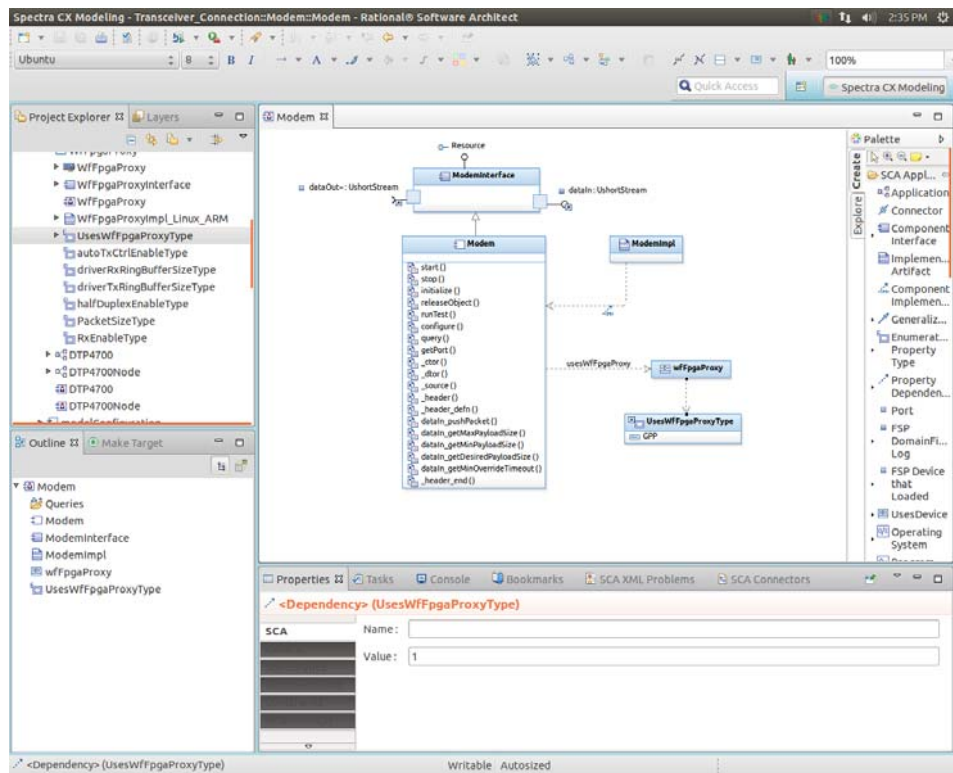

Figure 21 Uses Device Dependency
Step 11: Ensure that the diagram for the Modem component is visible. Expand the DTP4700 project in the Project Explorer view and navigate to the WffpgaProxy component definition. Left-click on the UsesWffpgaProxyType property model element and drag the icon onto the diagram canvas for the Modem. With the Property Dependency element under the SCA Application drawer of the Palette view selected, draw a line connecting the wffpgaProxy UsesDevice to the UsesWffpgaProxyType model element in the diagram. Select the Property Dependency element in the diagram, and in the Properties view enter the value '1'. This is shown in *Figure 21*.